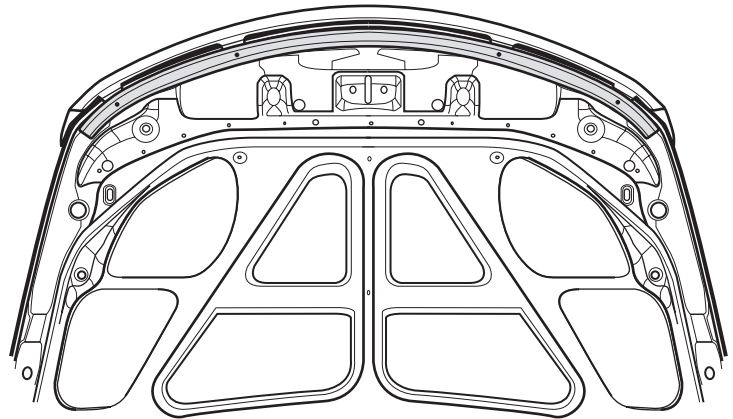

Fig.3
5. While holding the rubber seal down, lower the deflector onto hood aligning the holes in the tabs of the deflector with applicable holes in the hood (Fig. 3). Restore the rubber seal once shield is aligned with the holes.